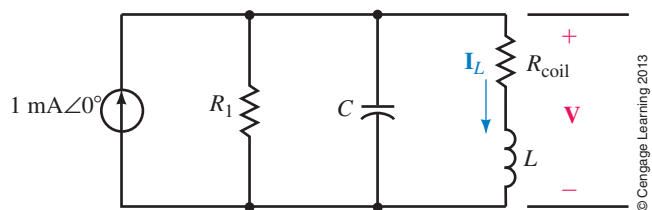

FIGURE 21-68
27. Determine the values of R_1 and C for the resonant tank circuit of Figure 21-68 so that the given conditions are met. Solve for current I_L through the inductor.
28. Determine the values of R_1 and C for the resonant circuit of Figure 21-68 so that the given conditions are met. Solve for the voltage, V , across the circuit.